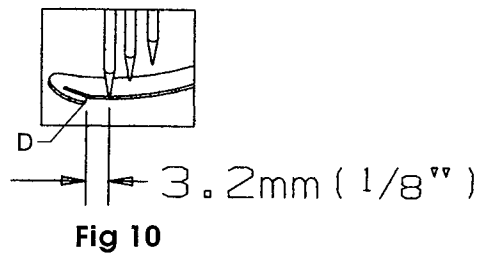

Fig 10
Wiper hook (A) must deflect needle threads to operator on downstroke, (Fig9). Point (D) of the wiper hook must pass the center of left needle by 3.2mm(1/8").(fig10)